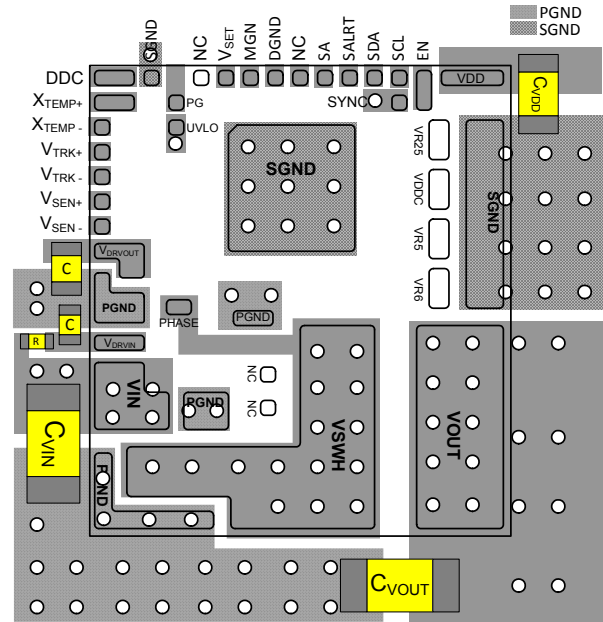

FIGURE 30. RECOMMENDED LAYOUT - TOP PCB LAYER
- For $VDD > 6V$, the recommended PCB layout is shown in Figure 30. Leave V25, VDDC, VR5, and VR6 as no connect.